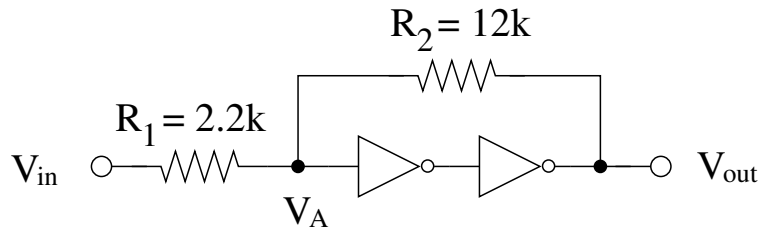

Figure 3: Schmitt Trigger
a) Build a Schmitt Trigger using two inverters as shown in Fig. 3. Use a triangle wave oscillating between 0 and +5 Volts as input and simultaneously observe this input and the Schmitt Trigger's output using the oscilloscope. Is the hysteresis voltage ΔV the value you expect? Can you change ΔV to half its value?